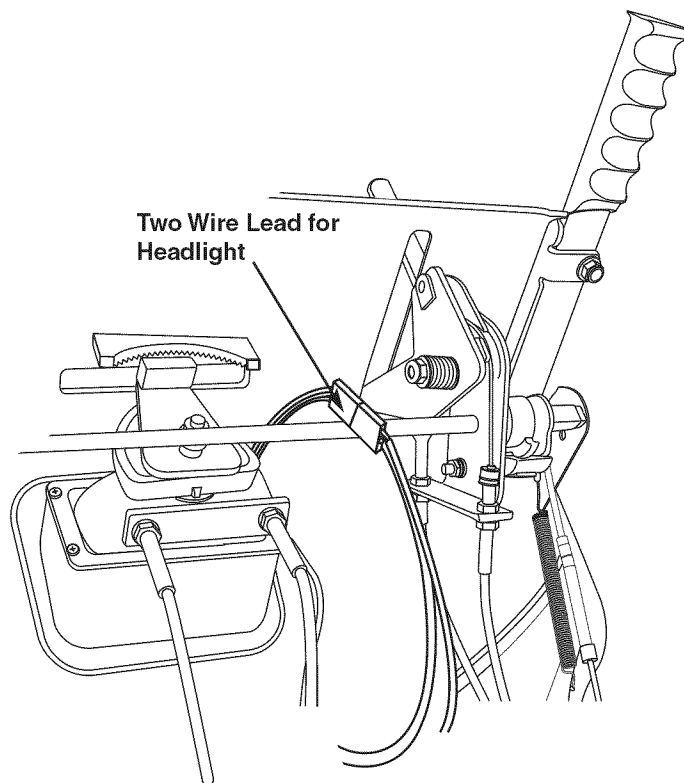

Figure 1-2
5. There is a two wire lead coming from the engine, and another lead under the controls for the headlight. Connect these as shown in Fig 1-2.